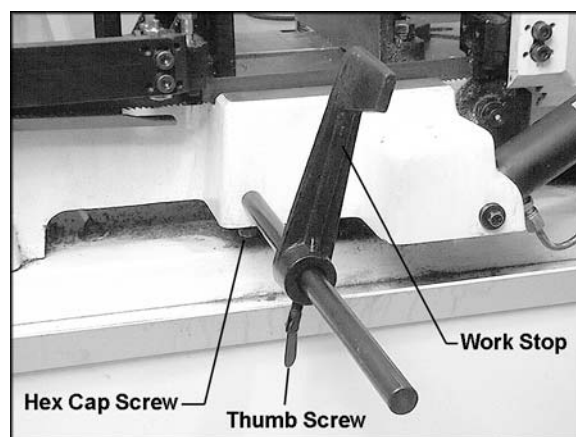

Figure 3
1. Insert the stock stop rod into the hole at the front of the base (Figure 3).